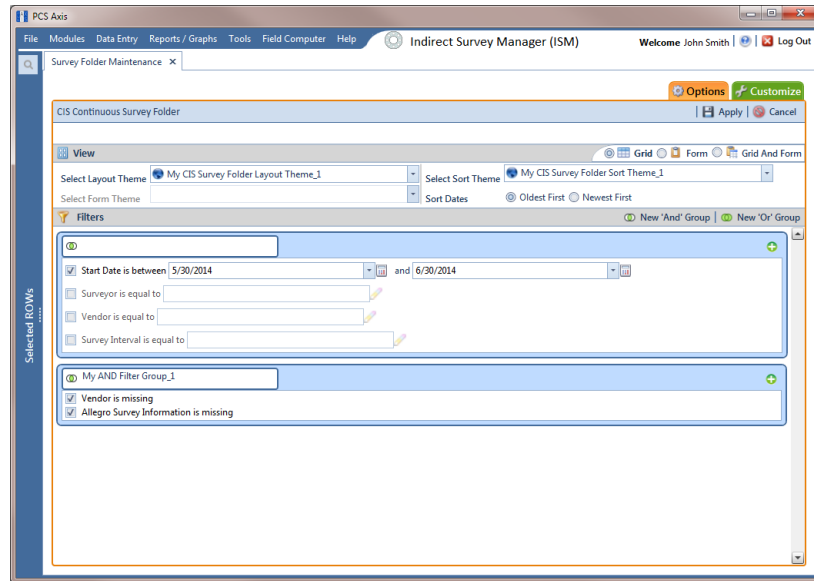

Figure 6-19. Options
- 15** To apply one or more custom filter groups to the *Survey Folder Maintenance* grid (Figure 6-19, page 214):